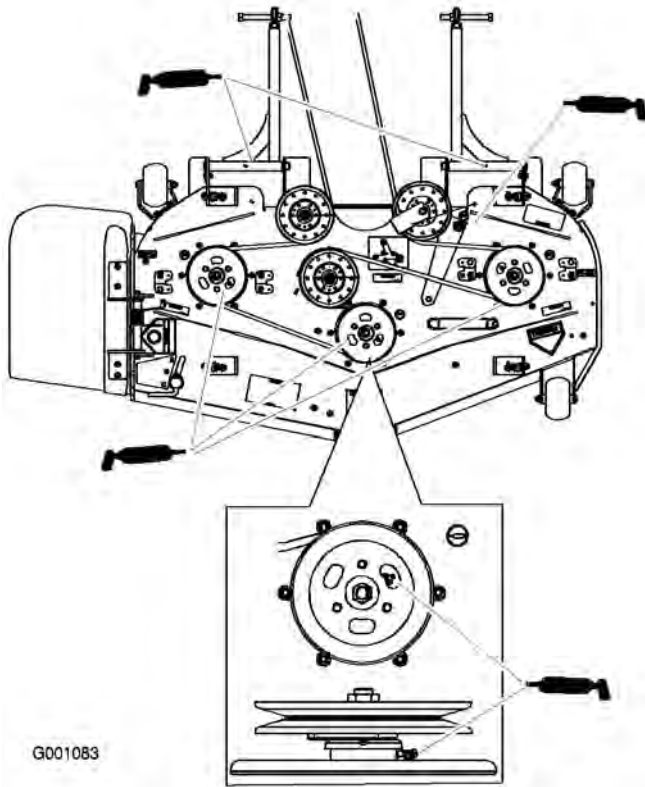

Figure 33
4. Grease the three spindle bearings under the pulleys until grease comes out the lower seals (Figure 33).
5. Grease the idler arm on the mower deck (Figure 33).
6. Grease the fittings on the push arms (Figure 33).